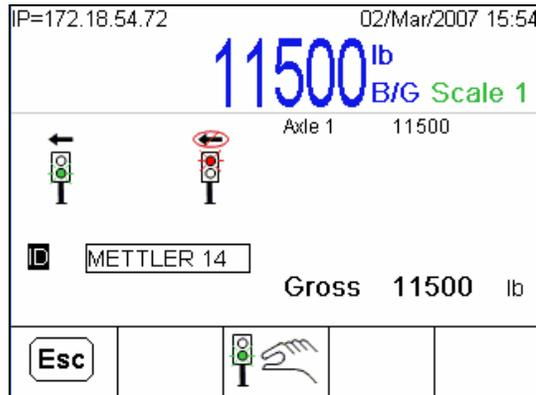

Figure 6-22: Runtime Screen, Manual Control Softkey Showing
1. If Manual Control is enabled, once an Automatic Mode transaction has begun (the first axle captured on the scale), the Manual Control softkey appears (Figure 6-22).